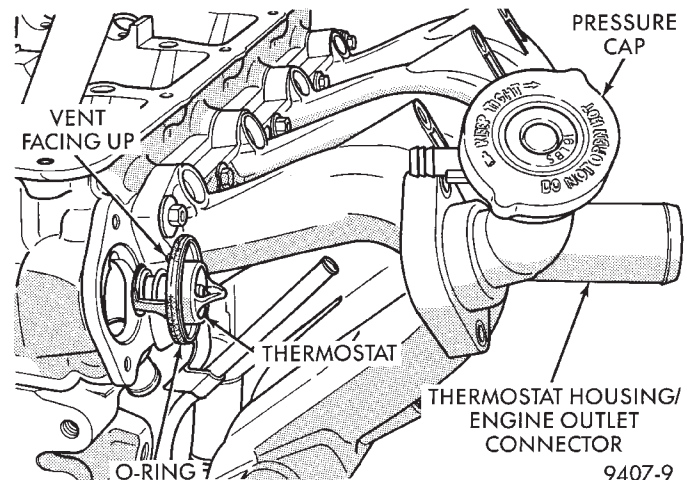
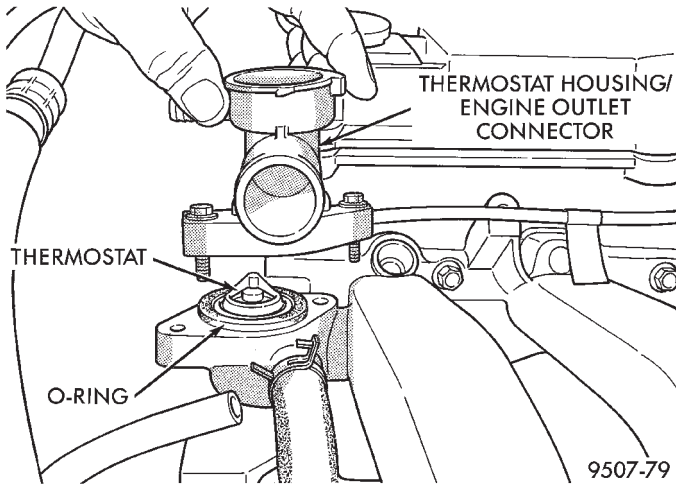
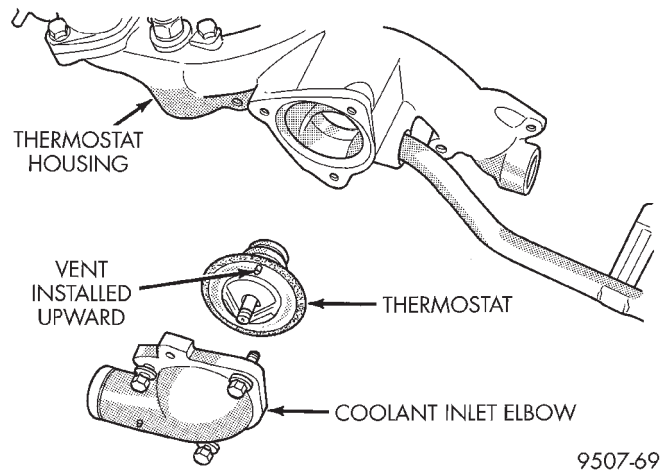

Fig. 37 Thermostat/Engine Outlet Connector—2.0L Engine
Fig. 38 Thermostat and Engine Outlet Connector—2.4L Engine
Fig. 39 Thermostat, Housing and Inlet Elbow—2.5L Engine
(1) Drain cooling system to the thermostat level or below.
(2) Remove coolant recovery system (CRS) hose and thermostat/engine outlet connector bolts (Fig. 37) and (Fig. 38) 2.0/2.4L Engines. 2.5L engine remove inlet hose and coolant elbow from thermostat housing (Fig. 39).
(3) Remove thermostat assembly, and clean sealing surfaces.
- (1) Install thermostat into the recess in the thermostat housing.
- (2) Install inlet elbow and tighten the bolts to 19 N·m (168 in. lbs.) (Fig. 39).
- (3) Fill cooling system. Refer to Cooling System Refilling in this section.